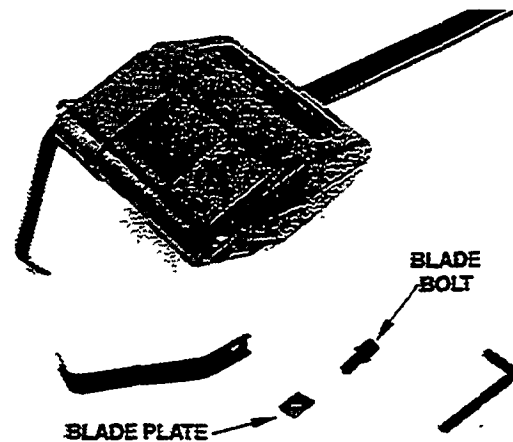

Figure 27
- Install the blades exactly as shown (Fig. 27–29). Incorrect assembly will cause the blades to loosen during use.